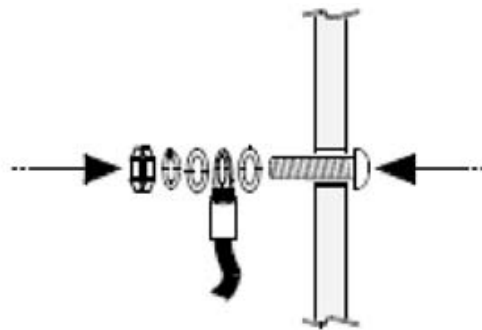

Figure 4. Earth Assembly
- earthing the ModCon75 Touch Controller according to Figure 4.
- Bore a hole (Figure 4).
- On the screw's shank, place the following hardware in this order: washer, ring terminal, second washer, spring, and nut as shown in Figure 4.